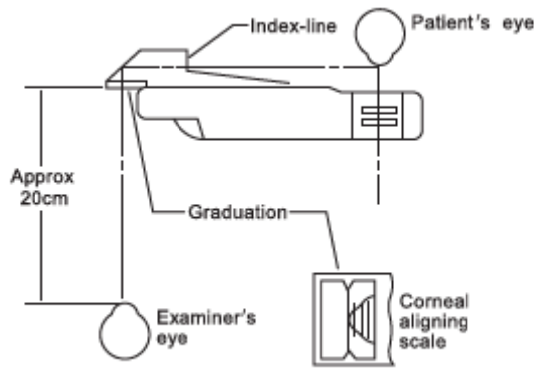

Fig.25
Turn forehead rest knob ⑨ to adjust position of forehead rest ⑳. After setting patient's forehead closely on forehead rest ⑳, look through the corneal aligning aperture ⑩ from around 20cm away. Look at the apex of the patient's cornea (Fig.25) after the examination aperture's pointer acme of corneal aligning aperture ⑩ aligns with the longer line on the scale. The longer line in the aperture means the measuring distance is 13.75mm, which is the standard spectacle wearing distance. Three shorter lines are provided by 2mm equal distance away from the longer line. If apex of the cornea of testee is positioned on second shorter line from the longer line, the lens power should be the value measured when spectacle is placed at 17.75mm away from apex of the cornea (standard value 13.75mm + correction value of second shorter line 4mm =17.75mm). If the actual spectacle wearing distance is different from the standard value (13.75mm), correction should be made according to Table 1 and Table 2.